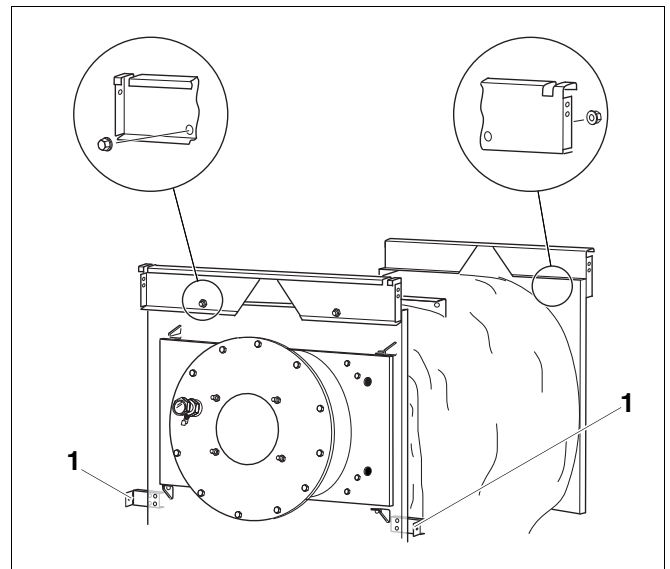

Fig. 15 Connection plates
- Ensure that the folded edges on the connection plates are facing outwards (Fig. 15).
- Insert front connection plate (with trapeze-shaped cut-out facing downwards) into the threaded studs, with the 2 holes at the top, and screw in place with nuts (Fig. 15).
- Insert rear connection plate (with trapeze-shaped cut-out facing downwards) into the threaded studs, with the 2 holes at the top, and screw in place with nuts (Fig. 15).
- Loosely fasten front middle connection plate (Fig. 15, [1], page 22) on the left and right with 2 screws and 2 washers.
- For the time being, fasten the middle connection plate (Fig. 15, [1], page 22) only loosely. Do not screw the connection plates firmly in place until they are aligned and screwed together with the front side panel.